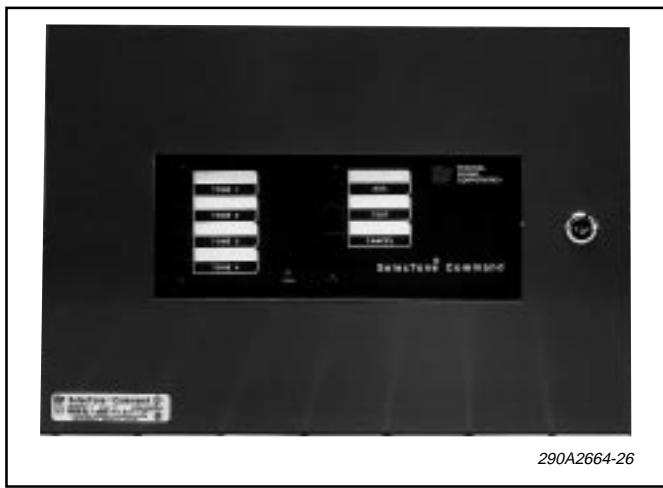

Figure 1-1. Model 300SCW-1 SelectTone® Command.
The Model 300SCW-1 SelectTone® Command (figure 1-1) is a UL listed and CSA certified central control device that is capable of generating up to four different tone signals on an audio line that is connected to remote speaker/amplifiers in a SelectTone System. The 300SCW-1 can control signal lines to Federal Signal Models 300GC, 300GCX, 300X, 302GC, 302GCX, 302X, and 50GC speaker/amplifiers and to other devices. It can also operate with standard speakers designed for 25Vrms line operation (15 watts max.). The 300SCW-1 has public address (PA) capability, allowing voice messages or instructions to be announced over the SelectTone system through an optional Model MNC-1 Microphone. The unit can also be used to play background music generated from an external source over the SelectTone system.